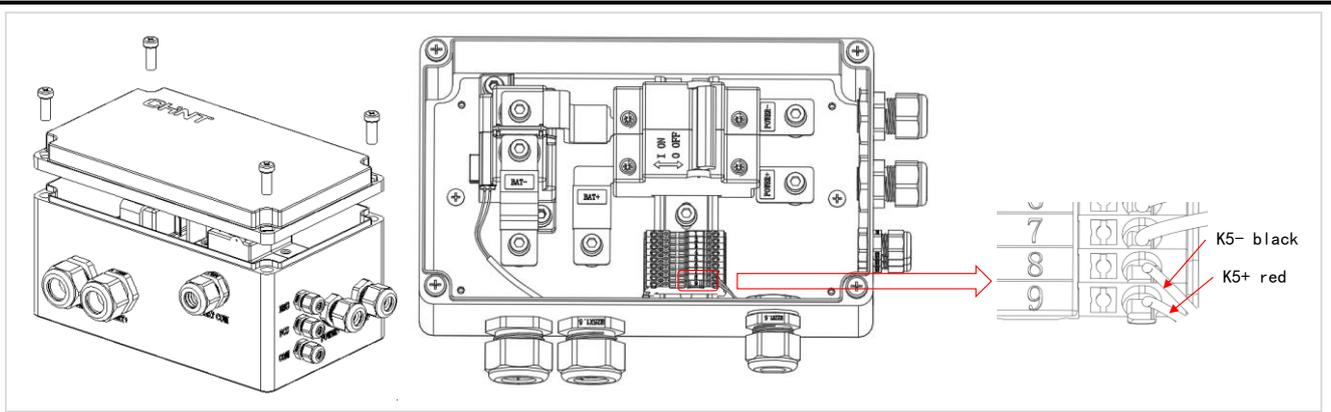

Figure 4-2
1. Take out the maintenance control box (A) and open the top cover. The internal structure is shown in Figure 4-2. The relay control harness in the control box (A) has been connected (in the bottom right part of the terminal blocks, terminal 8 is connected to K5- black control harness and terminal 9 is connected to K5+ red control harness).